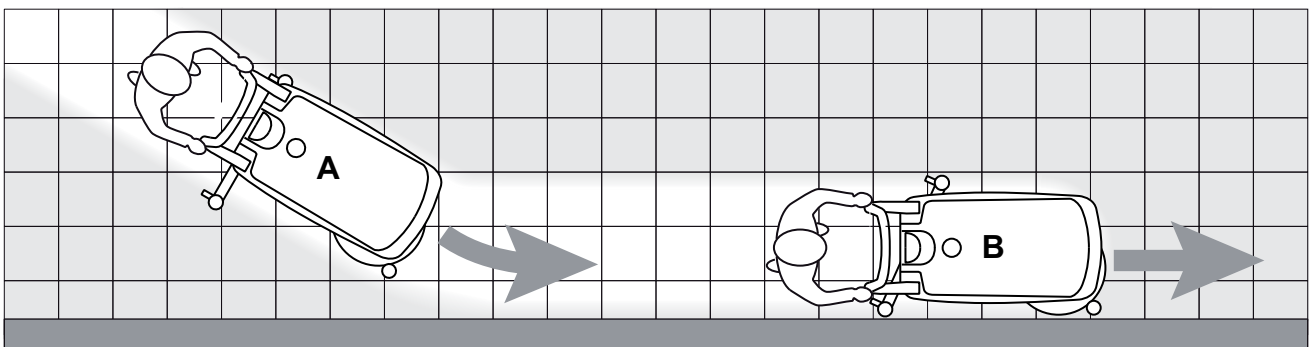

Figure 1
**For correct scrubbing/drying of floors at the sides of the walls, Nilfisk Alto suggests to go near the walls with the right side of the machine as shown in figure 1.**